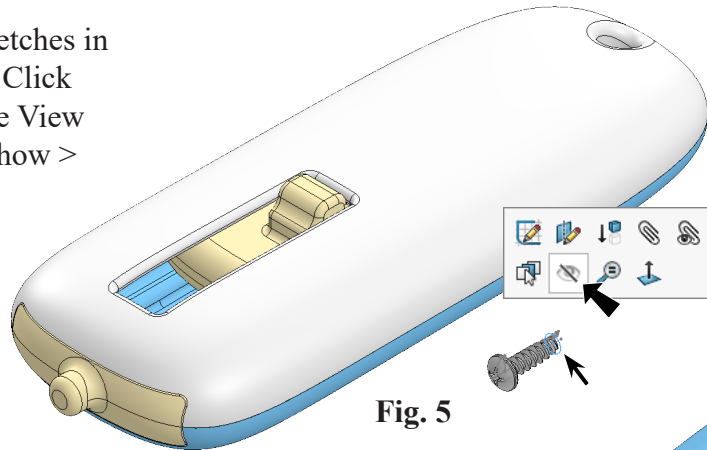

Fig. 5
Step 4. Place Screw as positioned in **Fig. 5**.
Step 6. Hide all the sketches in Screw, **Fig. 5**. Click **Hide** and Hide or use View Menu . Hide/Show > Sketches.